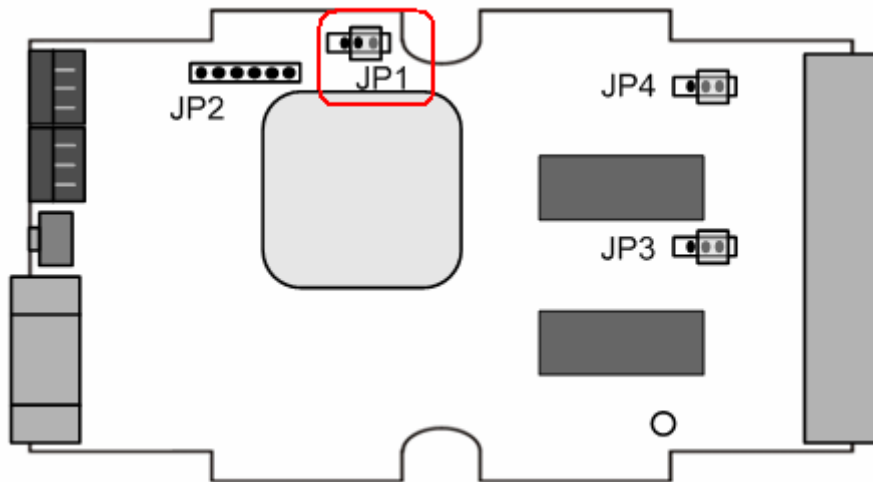

Figure 4-2: JP1 Right Side Position
- (4) After finishing the firmware update process, please adjust the JP1 position back to the right side like Figure 4-2 and reboot I-7532 module.